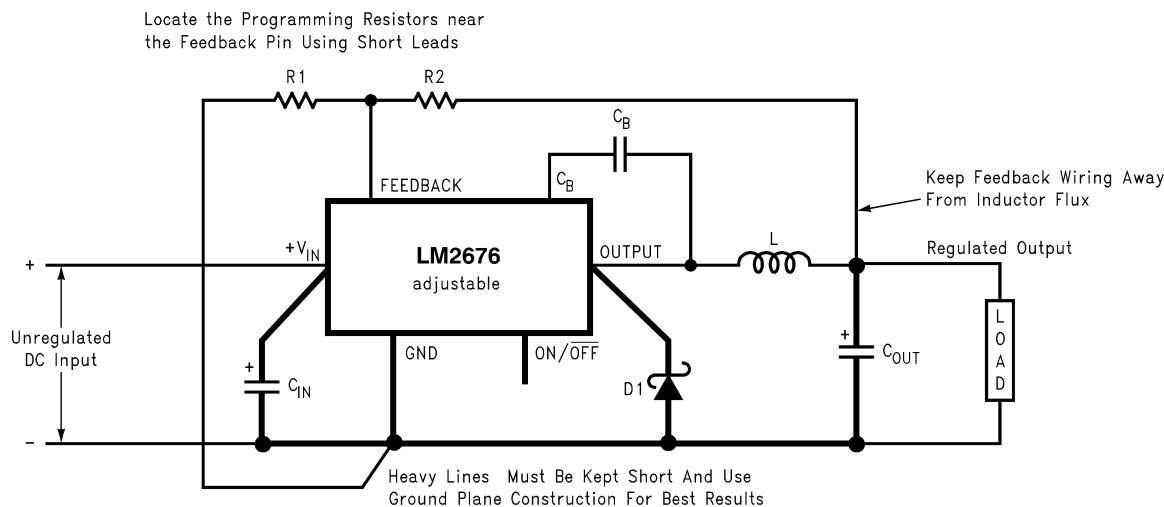

Figure 7-7. Basic Circuit for Adjustable Output Voltage Applications
Step 2: Select an LM2676S-ADJ. To set the output voltage to 14.9 V, two resistors must be chosen (R1 and R2 in Figure 7-7). For the adjustable device, the output voltage is set by the following relationship: